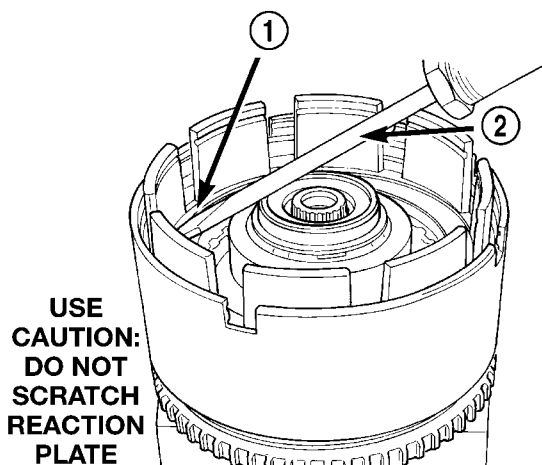
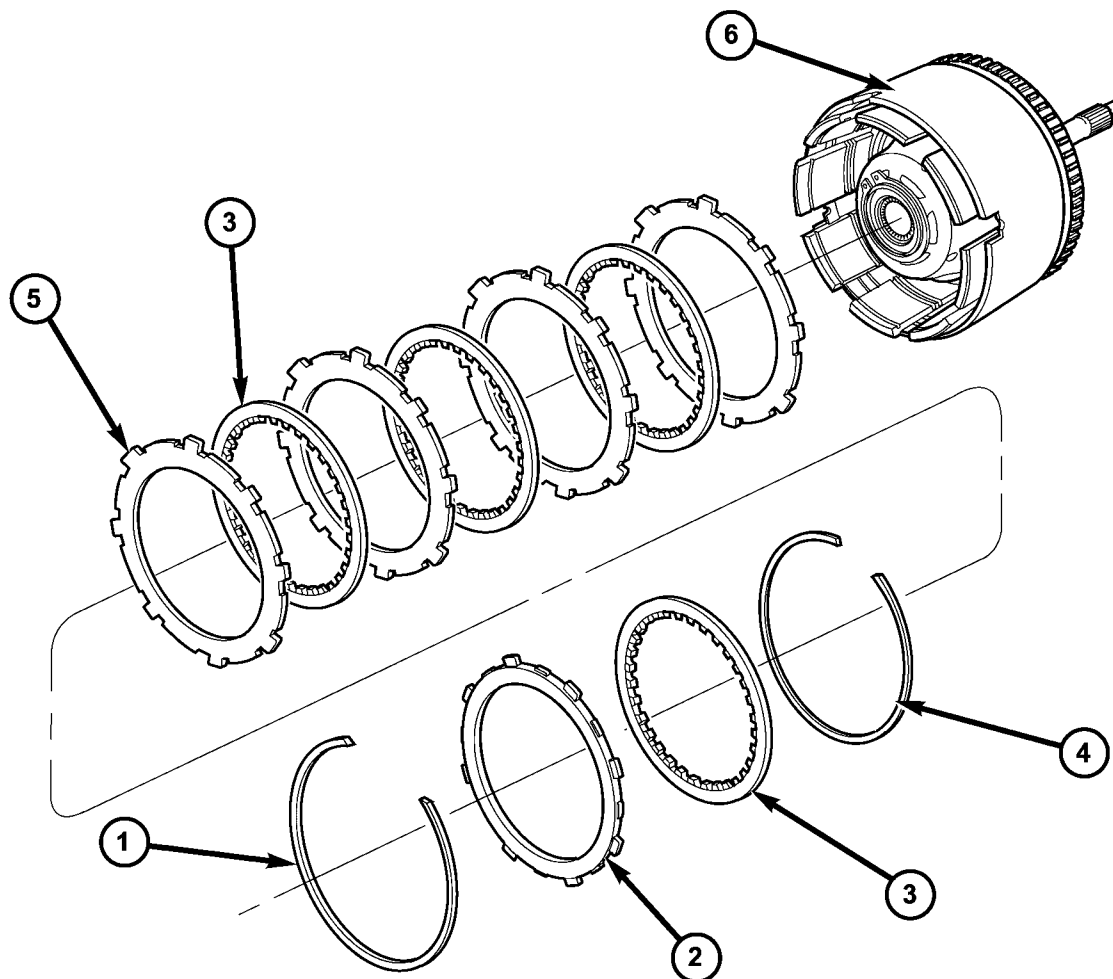

Fig. 255 Seating Tapered Snap Ring
Fig. 256 Underdrive Clutch Assembly
(14) Seat tapered snap ring to ensure proper installation (Fig. 255) (Fig. 256).